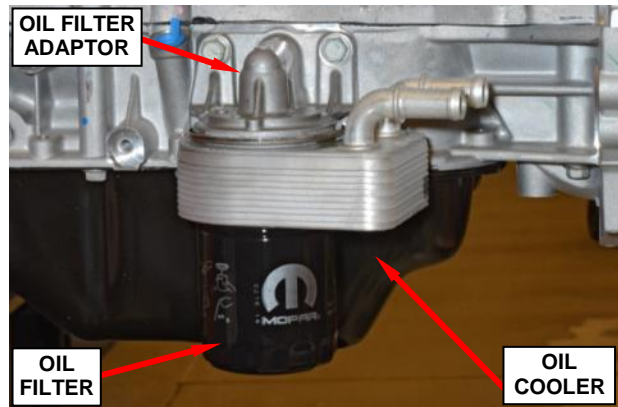

Figure 58 – Engine With Oil Cooler
NOTE: For vehicles not equipped with an engine oil cooler, and if the new engine includes an engine oil cooler (Figure 58), the engine oil filter connector will need to be transferred to the new engine.
- a. Remove the engine oil filter (Figure 58).